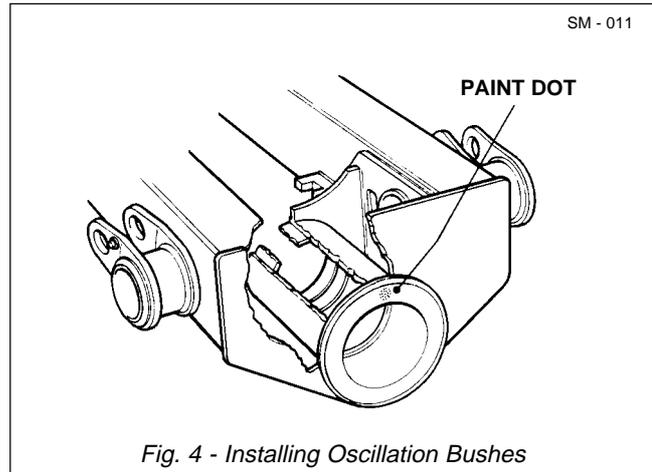

Fig. 4 - Installing Oscillation Bushes
2. Apply Loctite (3) and Loc Quick Primer (4) and align new bushes (2) in rear frame with grease holes aligned vertically and identification 'PAINT DOT' at Top Dead Centre. Refer to Fig. 4. Drift bushes (2) into rear frame using hammer with soft packing for protection.
3. Install plug (25) in filler/level hole on pivot assembly (1). Install gasket (5) and cover plate (6) on side of oscillation hub and secure with bolts (7) and washers (20).
4. Install plug (25) in cavity drain port on underside of oscillation hub.
5. Lightly coat 'V' ring (10) and machined surfaces of pivot with EMS19014 grease (26) and, install 'V' ring (10), with lip towards rear, on front of oscillation hub.
6. Using suitable lifting equipment, and taking care to prevent damaging bushes (2) or pivot threads, install pivot assembly (1) into rear frame.
7. Thread thrust nut (11) on pivot assembly (1) and tighten as follows: